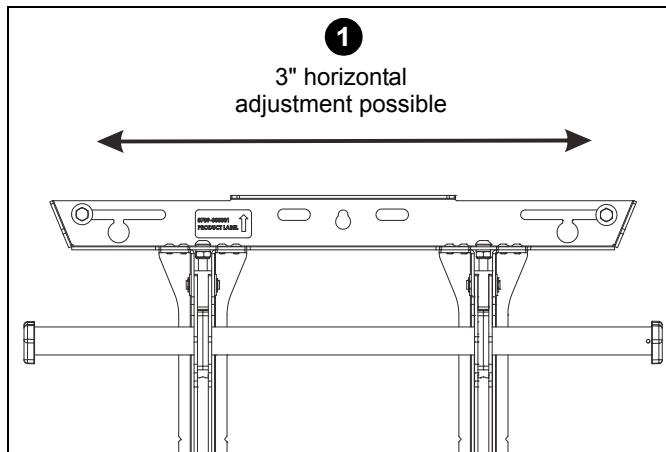

Figure 11
- The wall mount may be adjusted side to side at the point(s) of attachment. (See Figure 11)